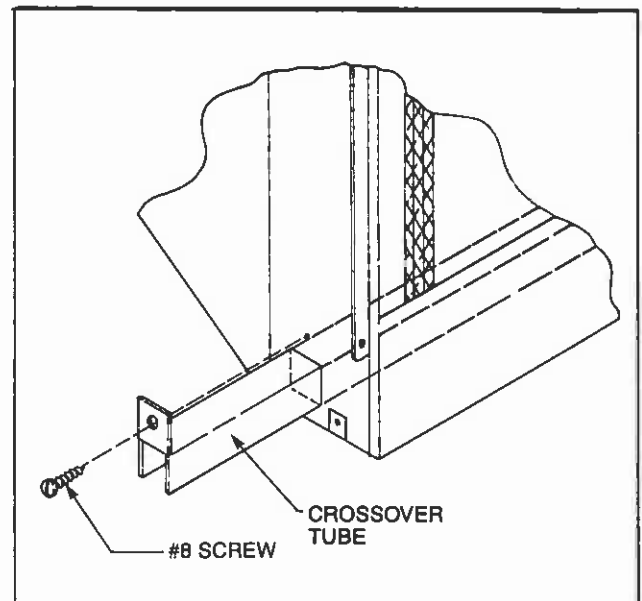

Fig. 2A. Installation of crossover tube (SWK).
2. Before installing the junction box to the fireplace, select the side to be wired and remove the electrical box knockout and the crossover tube knockout. For MBC42, insulation knockouts will also have to be removed. Next, slide the crossover tube into place and secure with a #10 screw provided (See Fig. 2A and 2B). The tube will have to be inserted parallel to the face of the fireplace for it to align properly when installed.